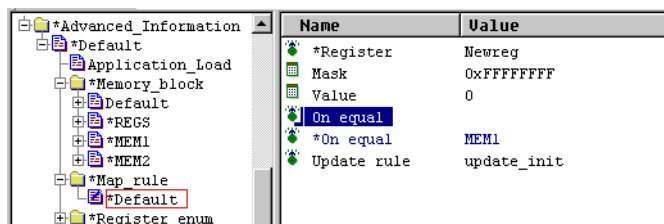

Figure 13-29 Creating a map rule
3. Set the following values, shown in Figure 13-29: